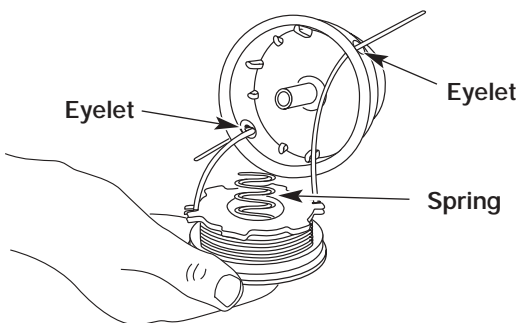

Figure 20
- Insert the ends of the line through the eyelets in the outer spool and place inner reel with spring inside the outer spool. See Figure 20. Push the inner reel and outer spool together. While holding the inner reel and outer spool, grasp the ends and pull firmly to release the line from the holding slots in the reel.
5. Insert the ends of the line through the eyelets in the outer spool. See Figure 20.